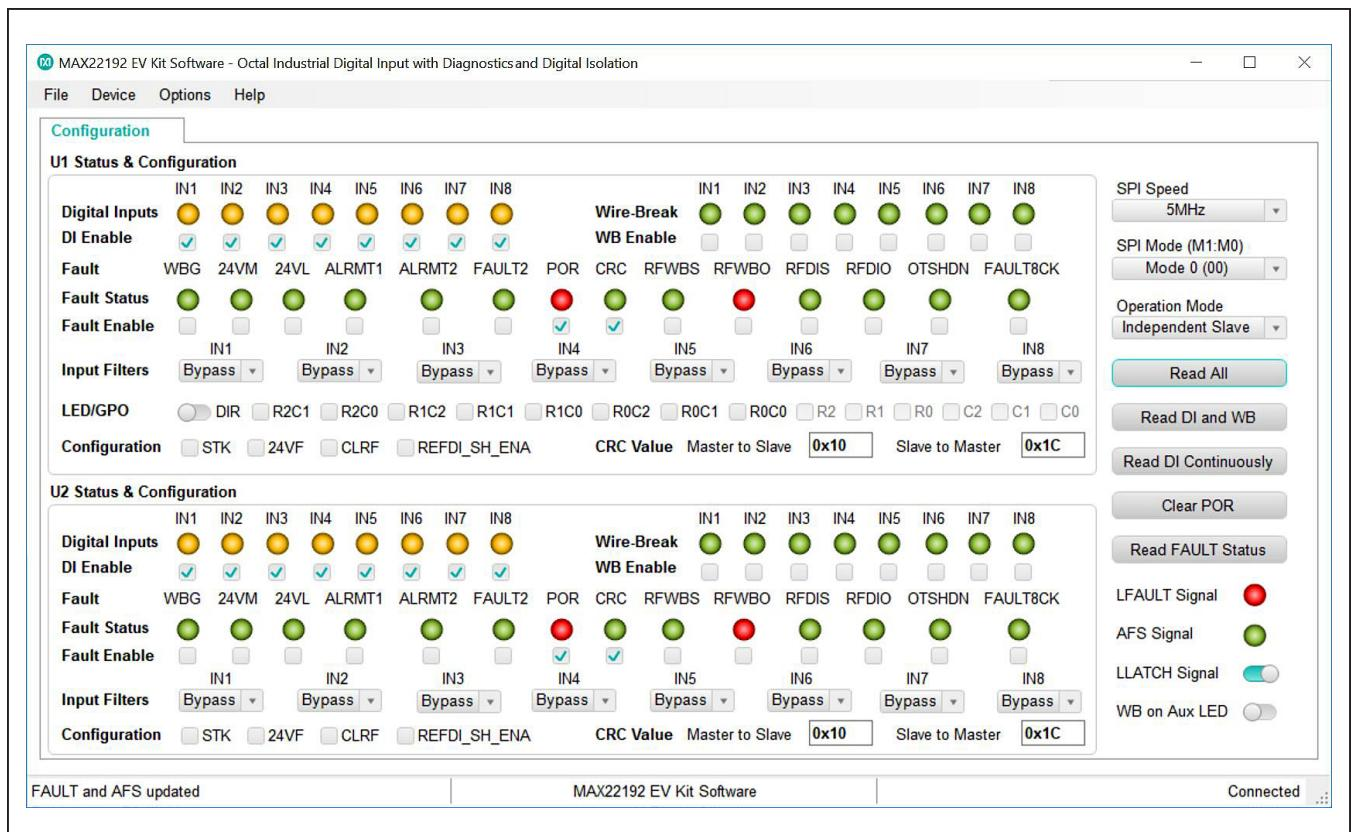
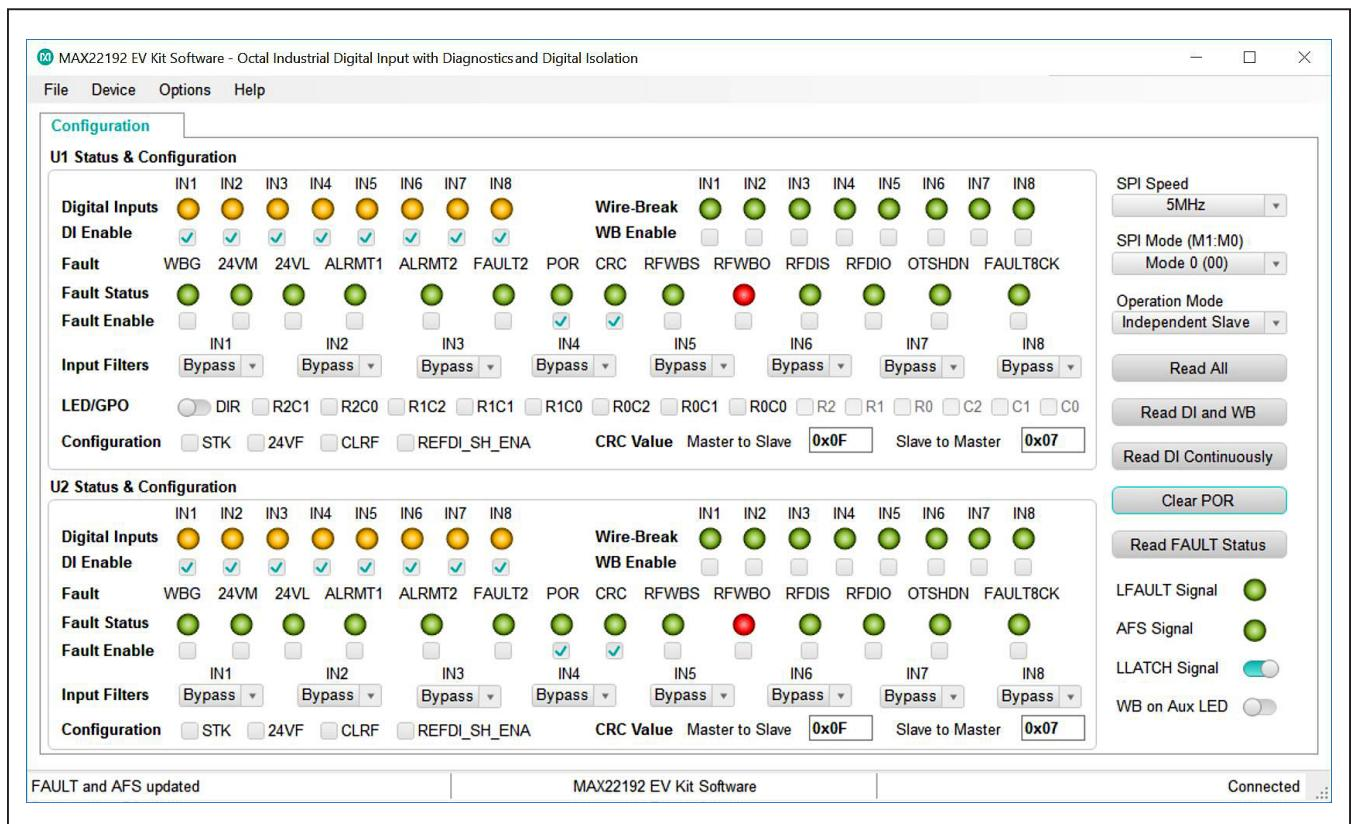

Figure 2. MAX22192 EV Kit Software Startup Window
Figure 3. MAX22192 EV Kit Software—Clear POR
- 11) Once the hardware is ready to use, launch the EV kit software by opening its icon in the **Start | Programs** menu. During the EV kit software launch, two message boxes are shown to indicate the default operation mode (independent slave mode), and U1 and U2 SPI Mode (Mode 0). Click **OK** to close the message boxes. The EV kit software appears as shown in Figure 2.
- 13) Click **Clear POR** button. Observe that **POR** status lights for U1 and U2 are changed to green, and the **FAULT Signal** status light is also changed to green in the **Configuration** tab as shown in Figure 3.
When the MAX22192 EV kit software starts, it automatically detects if the EV kit is connected to a PC and indicates it in the status bar at the bottom edge of the GUI. If the software does not recognize the USB2PMB2# adapter board, make sure that the software and all drivers are properly installed, check the USB connection, and go to the **Device** menu and select the **Search for Hardware** option. When the EV kit is properly connected, the MAX22192 (U1) and MAX22190 (U2) devices are read and all controls are updated (see Figure 2).
After power up, the MAX22192 LFAULT pin is low and the POR bit in the FAULT1 register is set, indicating that a power-on-reset has happened and all registers are set to default (Figure 2). After clicking the **Clear POR** button, the GUI clears the POR bit in the FAULT1 register. The LFAULT pin is pulled high and FAULTB1 and FAULTB2 LEDs are turned off after clearing the POR (Figure 3).